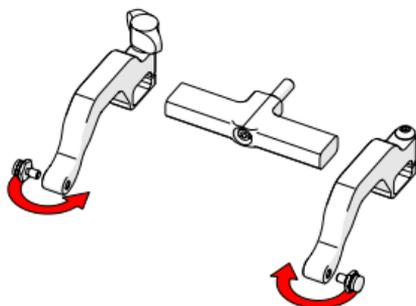

Fig. 125 - Position pivot buttons
5. Position the pivot buttons to the inside of the probe holder arms (Fig. 125).